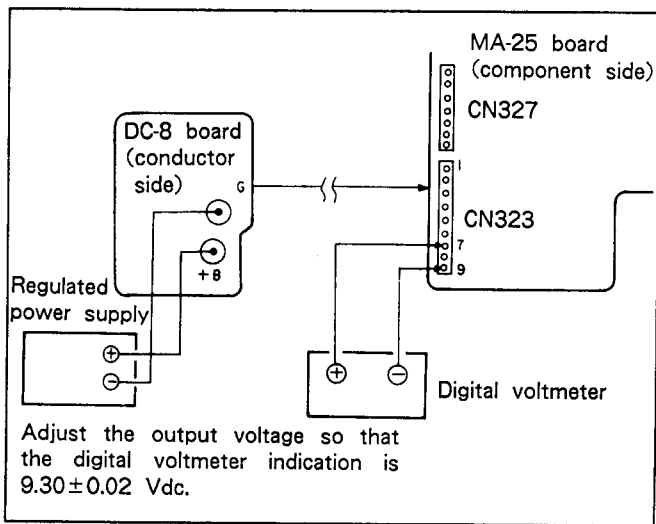

Fig. 8-21.
- 2) As shown in Fig. 8-21, connect the regulated power supply and digital voltmeter.